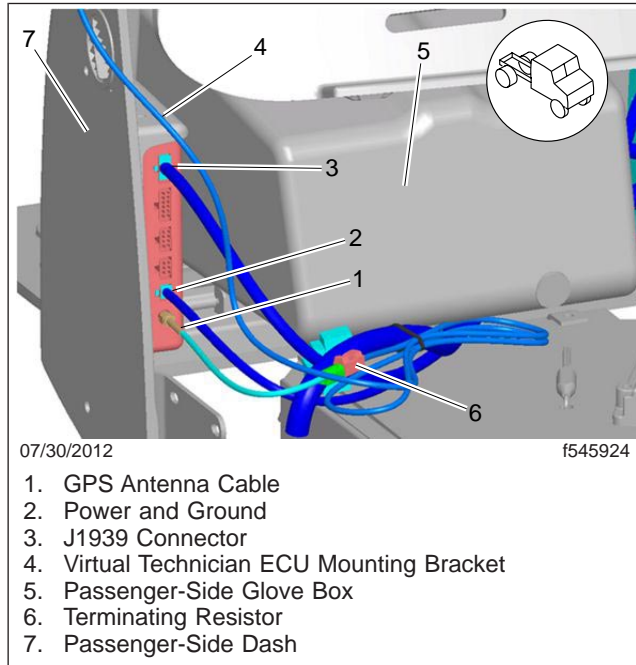

Fig. 10, Virtual Technician ECU, Installed
NOTE: On 4800, 4900, and 6900 model vehicles built *after* June 6, 2011, the J1939 10-pin connector is installed in production next to the Virtual Technician ECU. A J1939 jumper harness is not required. See Fig. 10. If the vehicle is in this group, continue with step 4.
- 5.5 Connect the 4-pin connector from the A06-82896-000 (A06-83364-000 for the 4700) to the ECU. See Fig. 10.